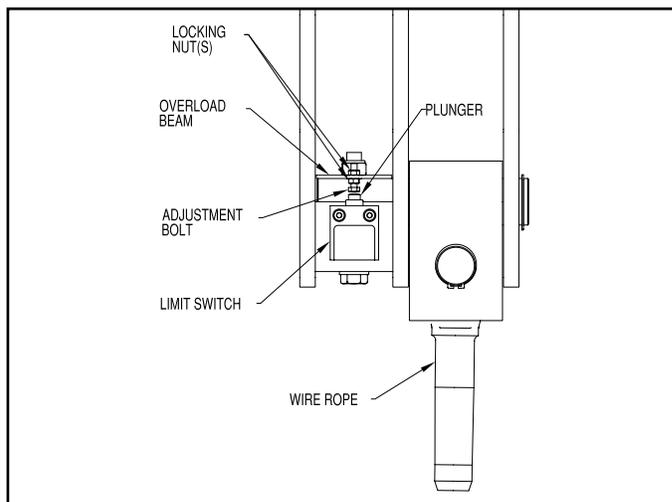

**Figure 7-2. Screw-Type Limit Switch Adjustment (Wires Not Shown for Clarity.)**
- b) **Procedure.** Remove load from the hook. To disconnect the geared limit switch, refer to Figure 7-2. Remove the limit switch cover then loosen the two (2) screws holding the locking plate in place. Allow the locking plate to slide down and disengage from the adjustment discs. Do not rotate the adjustment discs.
Position the lower block three inches (3") below the point where the block operated limit switch is activated. The geared limit switch shall be reconnected by sliding the locking plate back into position ensuring slots on adjustment discs are fully engaged and tightening locking plate screws to 4 in-lbs. (See Figure 7-2). The geared limit switch must then be tested.
that is coupled to the end of the drum shaft. Adjustment discs operate the contacts of separate switches, one for the hoisting circuit and one for the lowering circuit. The switch assembly must be wired in accordance with the appropriate wiring diagram, which is shipped with the hoist. Instructions for adjusting limit switch are inside cover and are repeated below (see Figure 7-2).